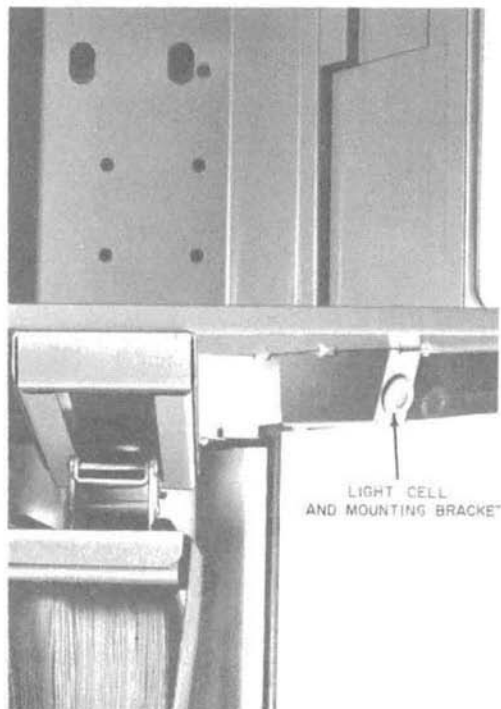

Fig. 18—Installation of Light Cell Mounting Bracket on KS-19426 Mounting
- (i) Secure the bracket to the bottom of the housing as shown in Fig. 18.
- (1) Slide light shield over the panel retaining channels and verify that shield is seated properly against gasket. Ensure that back edge of shield is engaged in KS-19426, List 34 top assembly, or B-564418 subset cover assembly (whichever is applicable).
- (2) Install shield retainer bar across top of housing using four No. 10-24 by 1/2 tamper proof screws, and KS-19192, List 1 wrench.